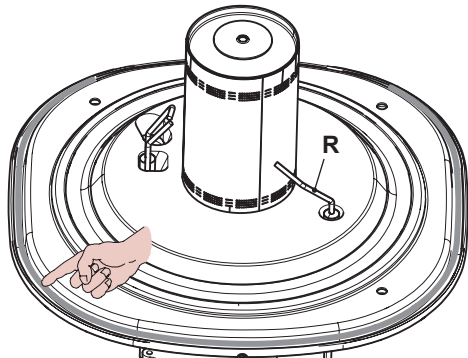

Fig. 9.13
- The silicon gasket on the front panel of the combustion chamber Fig. 9.13 has to be changed when deteriorated and in any case it is compulsory to substitute it every 2 years.
- The detection electrode R in Fig. 9.13 also functions as a sensor for the correct drainage of the condensate. Should the mentioned electrode come into contact with the condensate water present within the combustion chamber it sends the boiler into safety lockout. Therefore, should the insulation be wet or deteriorated, provide for the substitution of the same.